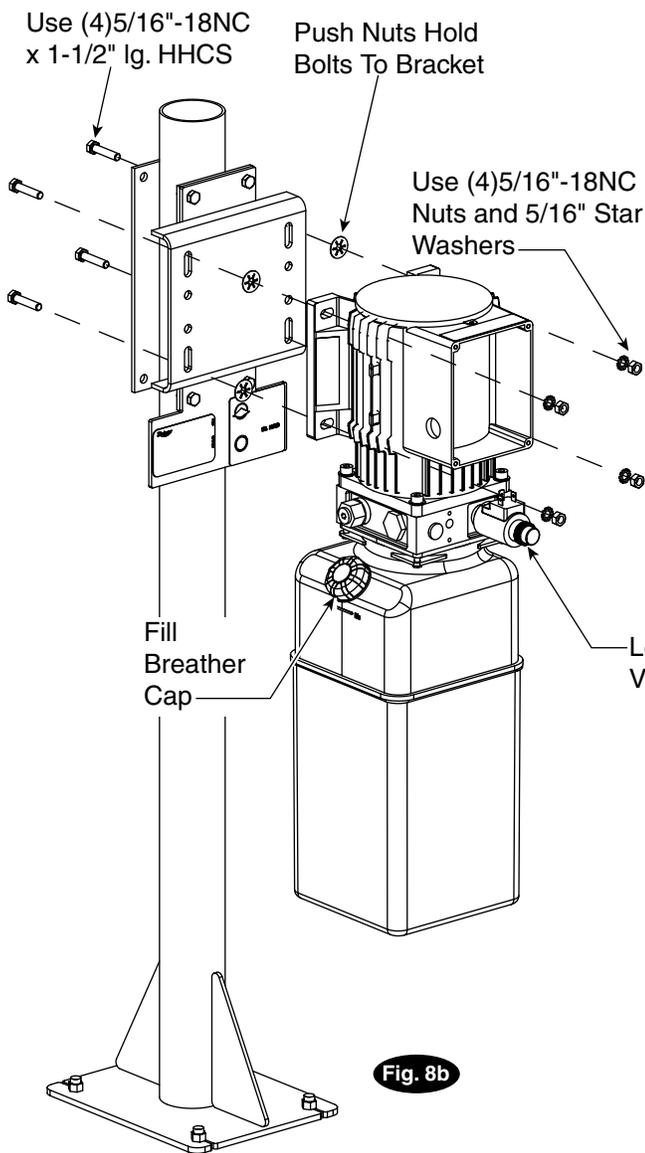

Fig. 8b
H. Put (4) 5/16"-18NC x 1-1/2" HHCS through power unit bracket using push-nuts to hold in place, Fig. 8b.
I. Mount power unit, with motor up, to the power unit bracket and install (4) 5/16" nuts and lock washers, Fig.8b.